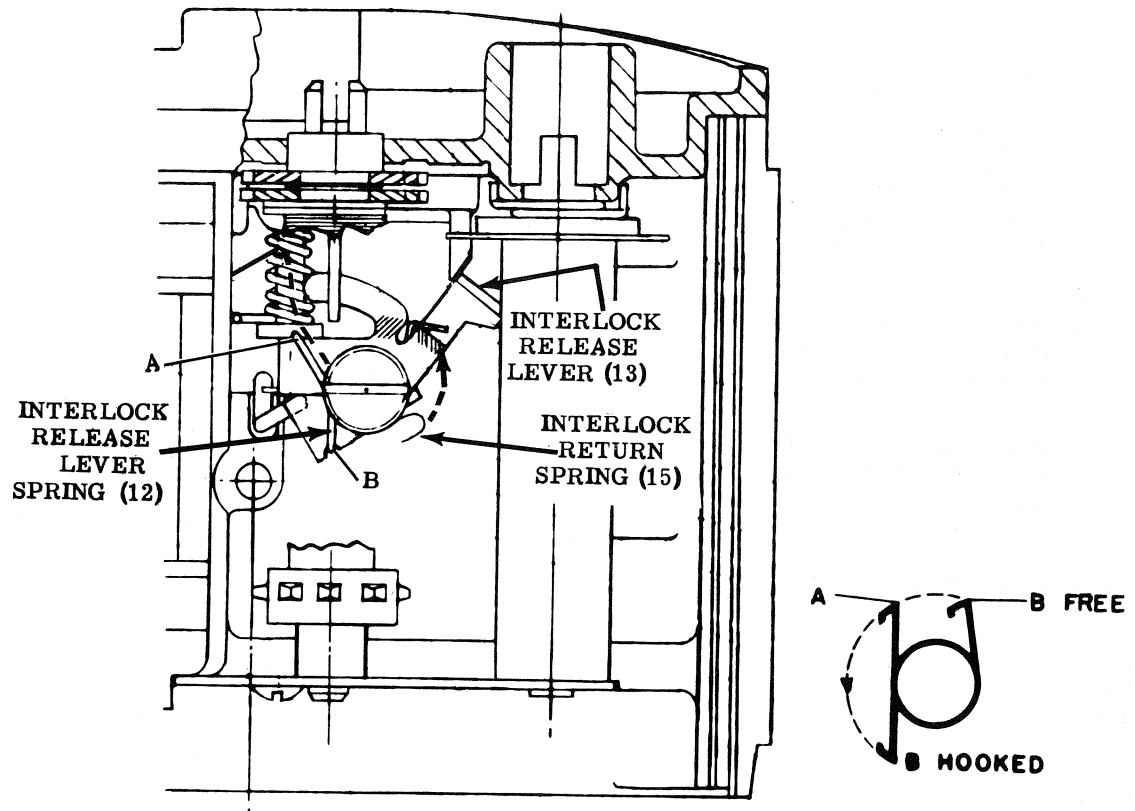

Figure 25. Interlock Spring Connections
- c. Position the interlock return spring (15) as shown in figure 25. The long terminal will lay beneath the coil spring on interlock lever stud shaft and bear against the body wall; the short terminal will be hooked to the long arm of the interlock release lever (13) when it is installed.
e. Position the interlock release lever (13) over the crank so that the hook engages the slot of interlock lever and the short arm tab lies between the stud head and the shutter release wire. Assemble shoulder screw (16).
f. Hook the interlock return spring (15) on the interlock release lever (13) as shown in figure 25.
g. Assemble the interlock release spring (12) as shown in the insert, figure 25. Use a small screwdriver to snap it over the head of shoulder screw (16). Terminal, "A", figure 25, freely hooks onto the short arm of the interlock release lever. Terminal "B" is pulled around, counterclockwise, over terminal "A" and hooked in the notch of the release lever crank.